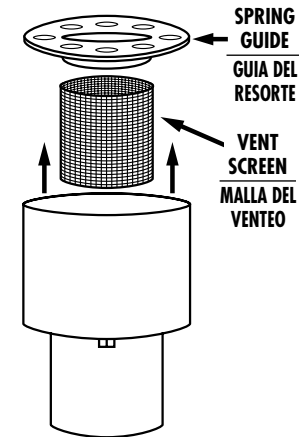

FIGURE 5 FIGURA 5
2. Pull the vent top out of the body as shown in figure 5.
3. Remove the Spring Guide (white plastic) as shown in Figure 5. (Note: This may come out with vent top).